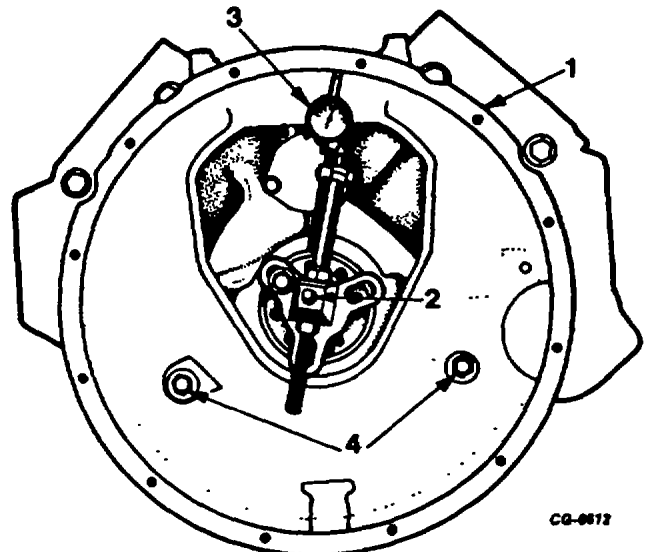

Figure 137. Checking Flywheel Housing Alignment
18. Rotate cylinder block to horizontal position with top of block facing upward. Place flywheel housing in position over two aligning roll pins and tap into cap-screws (with flat washers) and tighten in sequence shown in Figure 137.
19. Using aligner tool SE-1834 and dial indicator, check flywheel housing alignment (Figure 137). Run-out (out-of-round) should not exceed specified limits. (See SPECIFICATIONS).